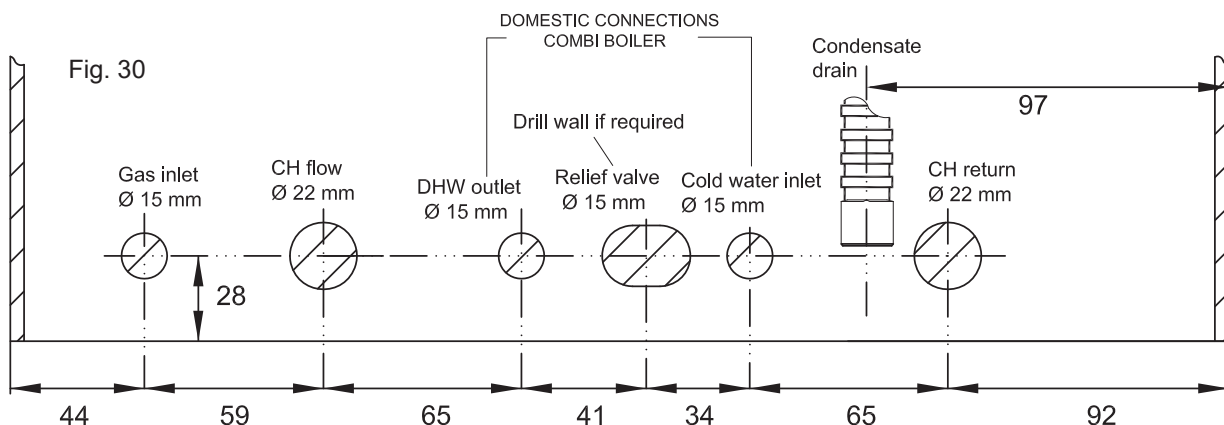

Fig. 30
- Pipe dimensions and positions are marked on template supplied (fig. 30).